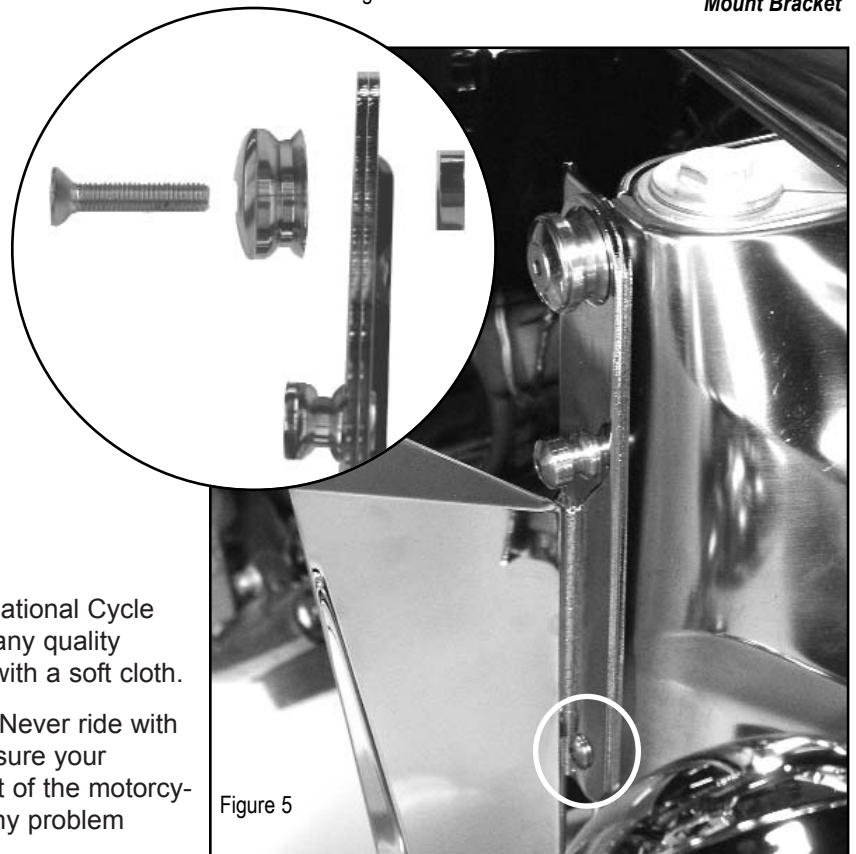

Figure 5
5. Install the right side Chrome Lower assembly to the right side of the motorcycle. Start the M8-40 Screw from Kit Q301 through the Upper Spool assembly, the Chrome Lower Bracket assembly, Bushing and then into the upper hole in fork (**5mm Hex Key**). **Figure 5**
6. Install the lower M8-16 Screw (**5mm Hex Key**). **Figure 5**